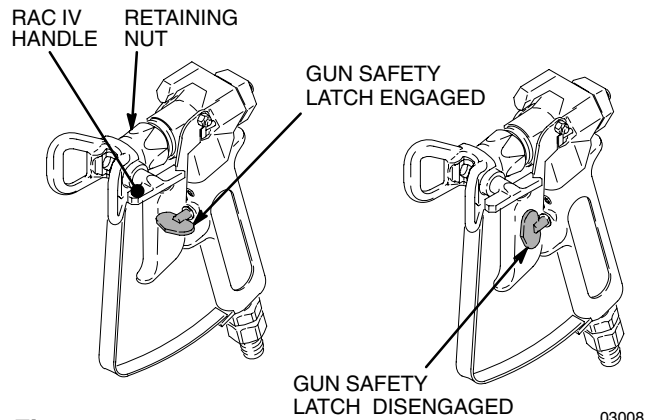

Fig. 5
- a. Open (handle down) pressure drain valve (G). If no secondary hose is installed, be sure secondary outlet cap is installed. Turn ON/OFF (L) switch ON. Slowly turn pressure adjusting knob clockwise until sprayer starts. When fluid comes from drain hose, close pressure drain valve (handle forward).
- b. Fig. 5. Disengage gun safety latch. Following warning, above, trigger gun until all air is forced out of system and paint flows freely from gun.
9. Fig. 5. Engage gun safety latch. Install spray tip. Install tip guard. See manual 308644, supplied.
- Test spray pattern. To adjust pattern, engage gun safety latch, loosen retaining nut. Position tip guard horizontally for horizontal pattern or vertically for vertical pattern. Then tighten retaining nut. Fig. 5.
- If spray tip clogs, release gun trigger, engage gun safety latch, and rotate RAC IV handle 180°. See Fig. 5.